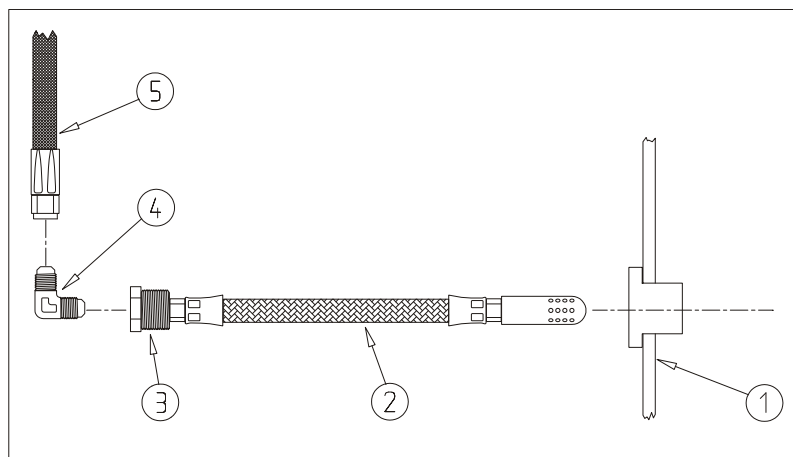

Figure 4 Flop Tube Removal/Installation
- 2 Disconnect the hose (5, Figure 4) and the elbow fitting (4).
- 4 Loosen the flop tube fitting (3) and take the flop tube assembly (2) out of the acro tank (1).